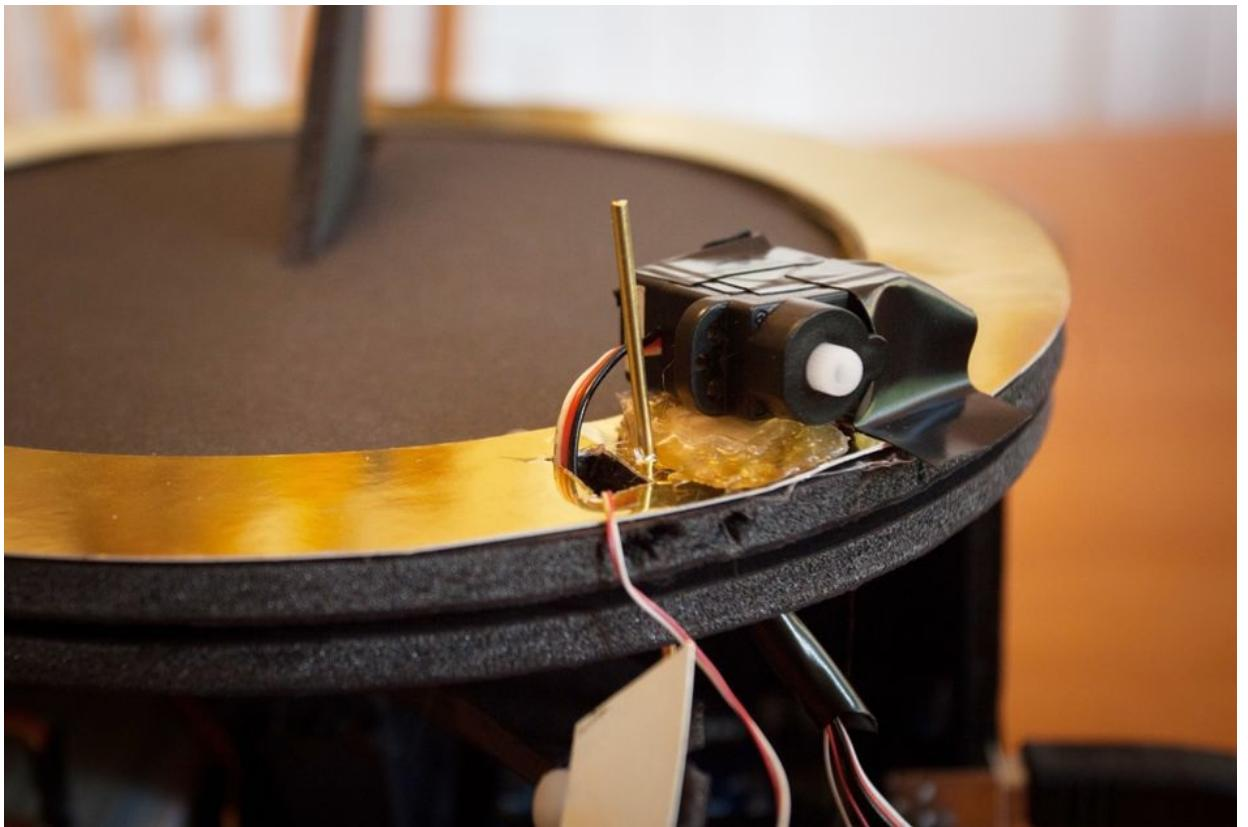

Figure 7-19. The azimuth arm wire poking up through the southern-aligned hole in the azimuth ring
7. Immediately next to the elevation servo, make a hole through the center of the azimuth ring with an awl. The azimuth arm's wire should fit into this hole. This is how the azimuth arm will move the azimuth ring, through the base disk's track. This *due-south alignment hole* (see Figure 7-19) will point, you guessed it, due south when the sundial is in its initial state — that is, directly opposite of the gnomon.